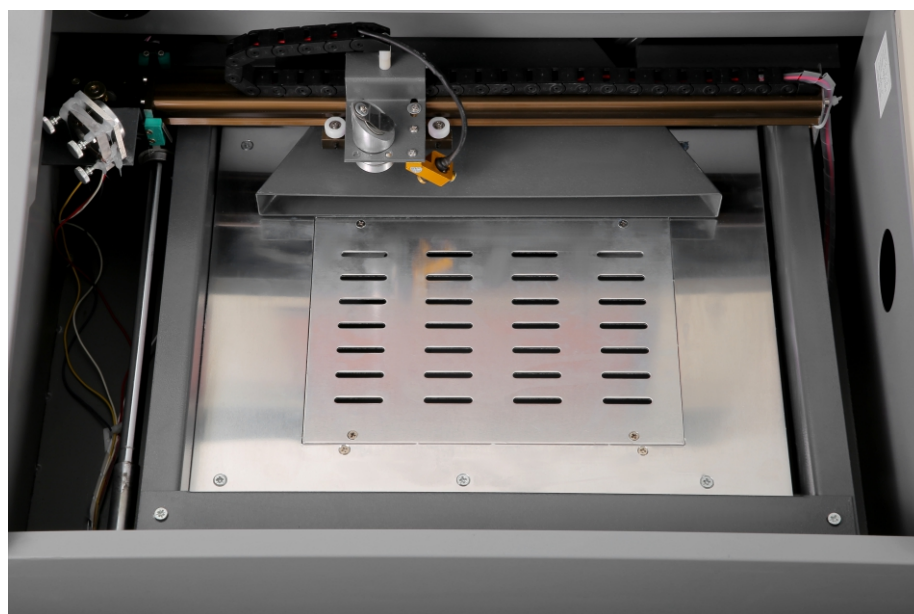

Fig. 4-5 - The Third Mirror in Position 1
- b. Move it slowly and gently along the Y-axis guide rail until it is in Position 1 (Fig. 4-5) near the second mirror.